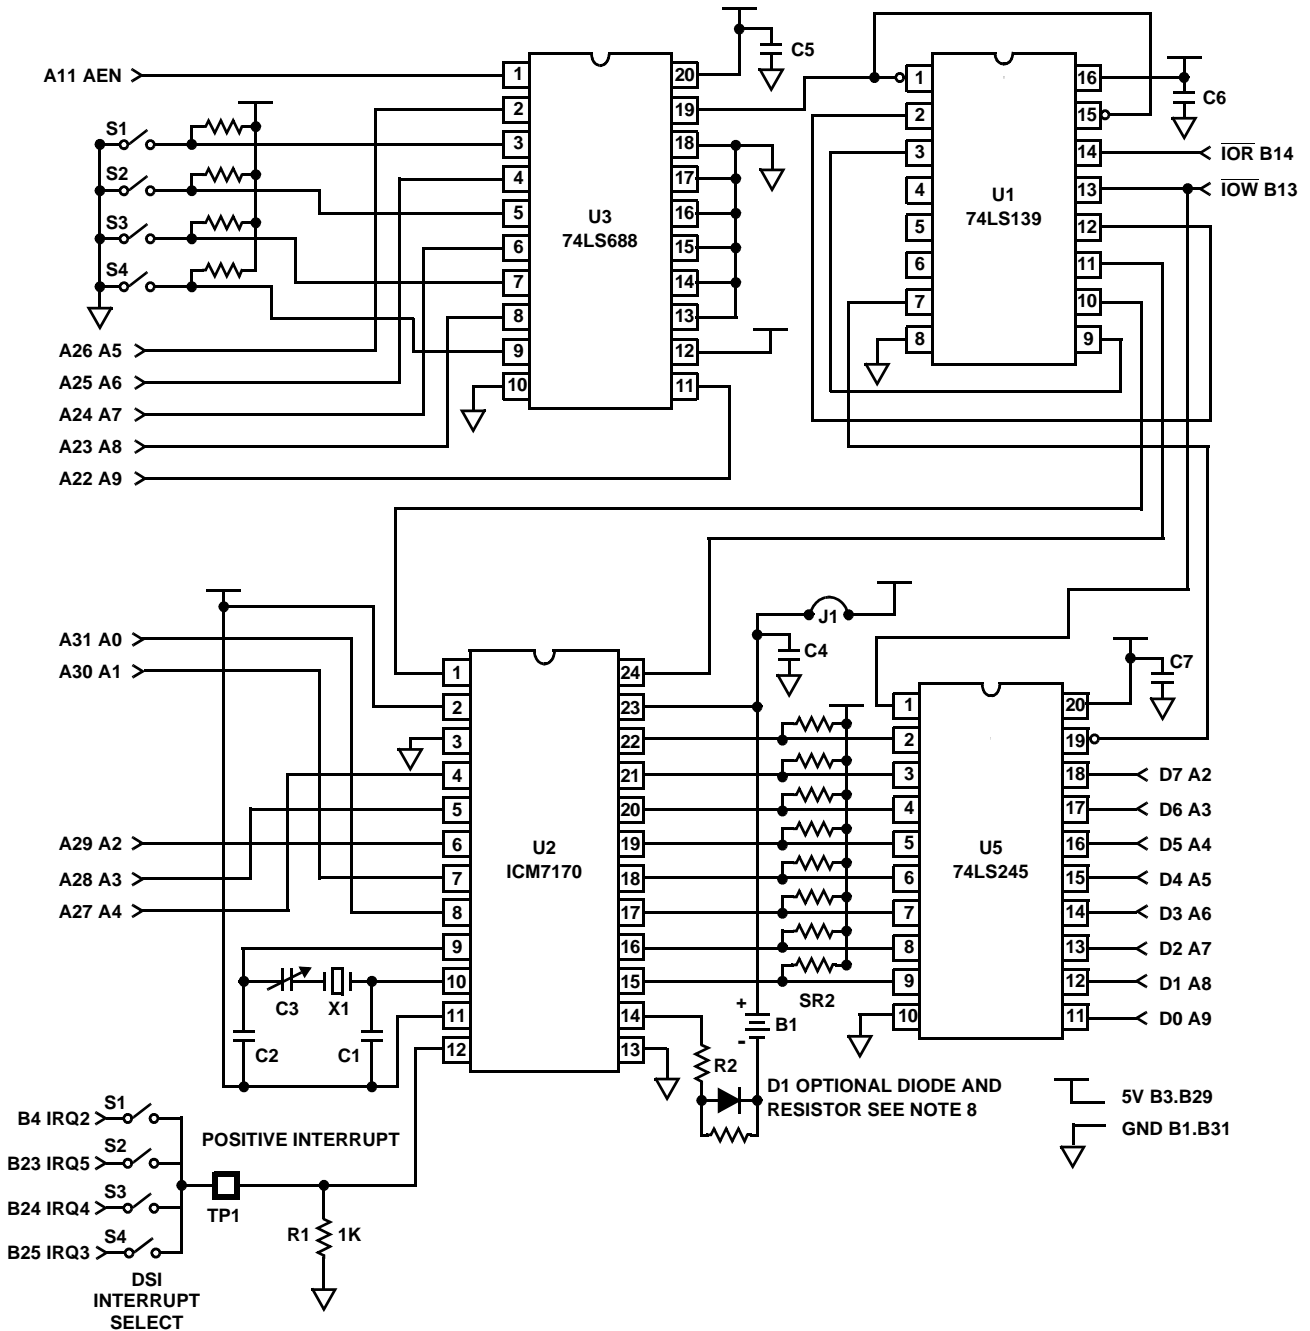

FIGURE 9. IBM PC INTERFACE FOR ICM7170Y
Figure 9 shows the schematic of a board that has been designed to plug into an IBM PC/XT (Note 1) or compatible computer. In this example  $\overline{CS}$  is permanently tied low and access to the chip is controlled by the  $\overline{RD}$  and  $\overline{WR}$  pins. These signals are generated by U1, which gates the IBM's  $\overline{IOR}$  and  $\overline{IOW}$  with a device select signal from U3, which is
8.  $V_{BACKUP}$  DIODE - Lithium batteries may explode if charged or if discharged at too high a rate. These conditions could occur if the battery was installed backwards or in the case of a gross component failure. A 1N914-type diode placed in series with the battery as shown in Figure 9 will prevent this from occurring. A resistor of 2M $\Omega$  or so should parallel the diode to keep the  $V_{BACKUP}$  terminal from drifting toward the  $V_{SS}$  terminal and shutting off ICM7170 I/O during normal operation.